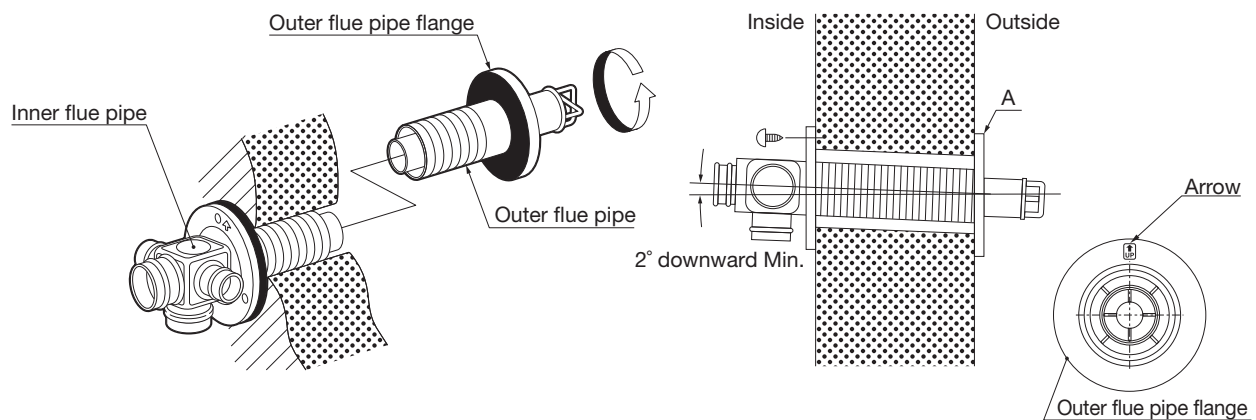

Fig. 5
- c. From outside, insert the outer flue pipe through the hole. Secure the outer flue pipe to the wall by turning it clockwise. This locks the two halves together (See Fig. 5).
Make sure to secure the outer flue pipe well. (A-part shown in Fig. 5)